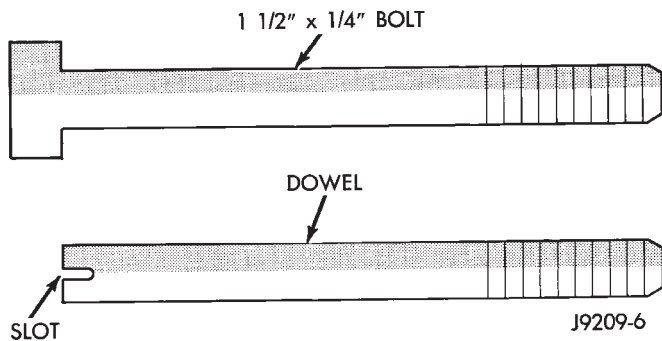

Fig. 1 Fabrication of Alignment Dowels
(1) Fabricate 4 alignment dowels from 1 1/2 x 1/4 inch bolts. Cut the head off the bolts and cut a slot into the top of the dowel. This will allow easier installation and removal with a screwdriver (Fig. 1).